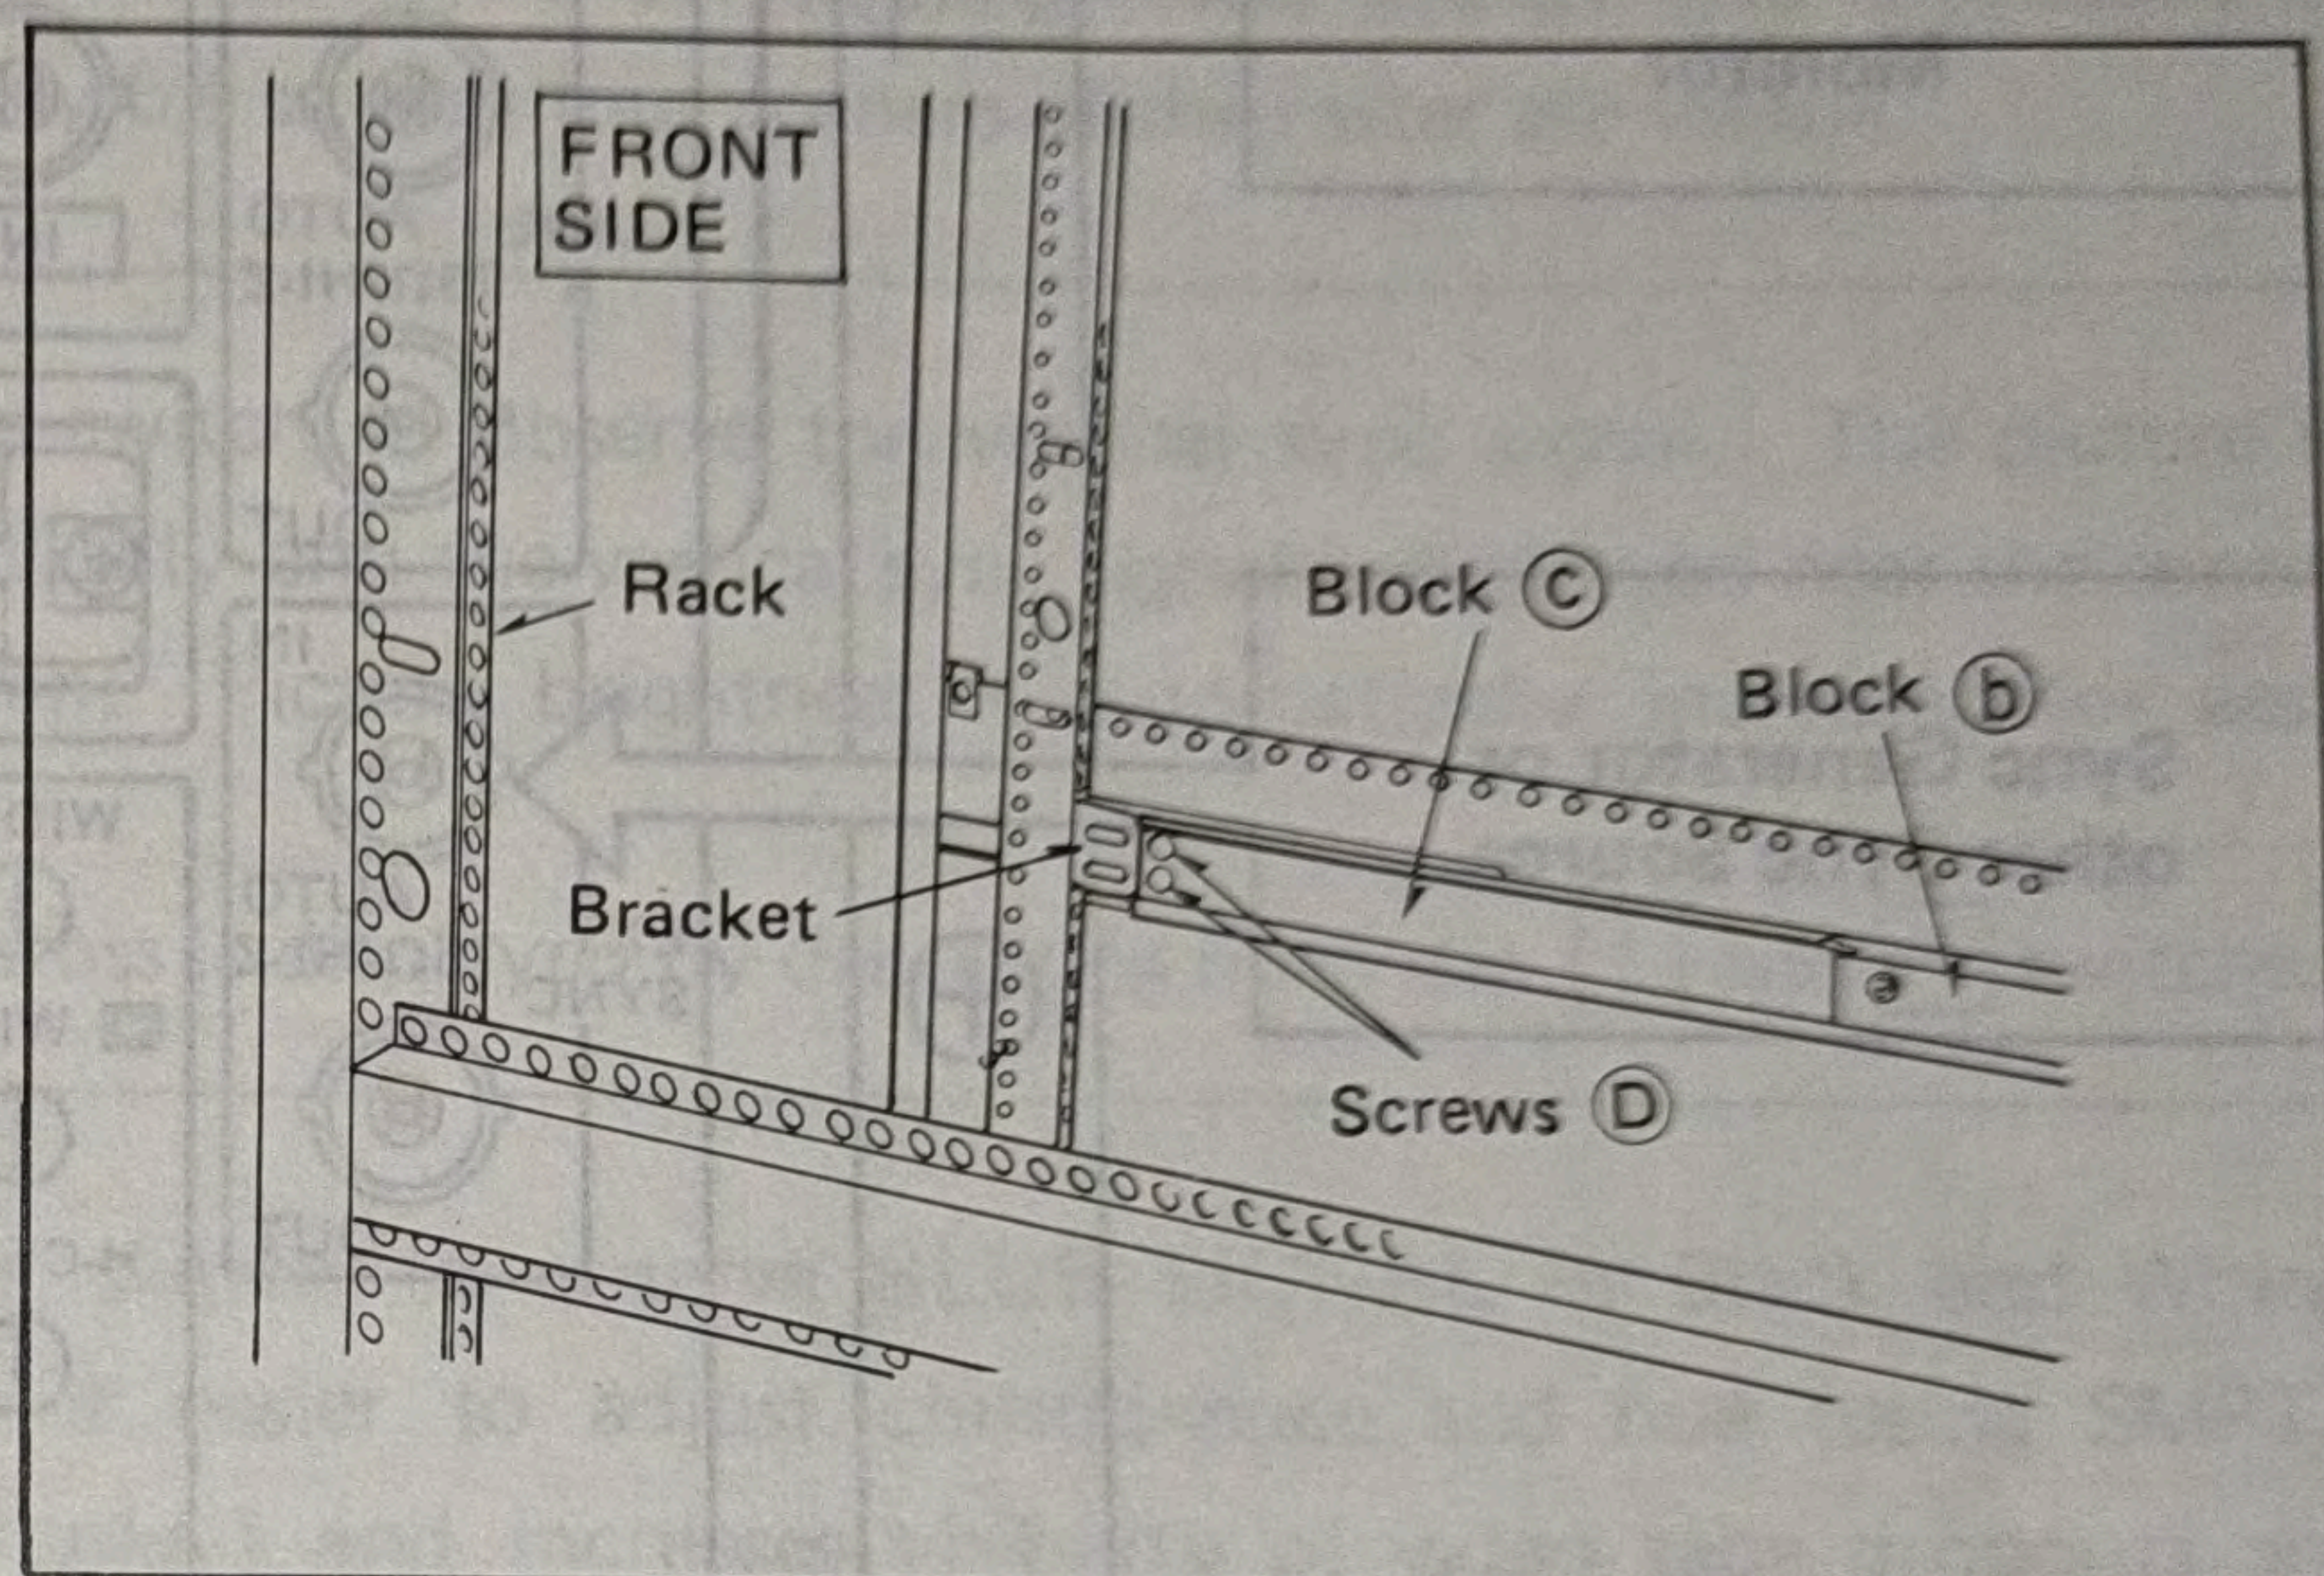

Fig. 4
4. Mount and secure the blocks (b) and (c) of slide assembly using 2 screws (D) each (Fig. 4).